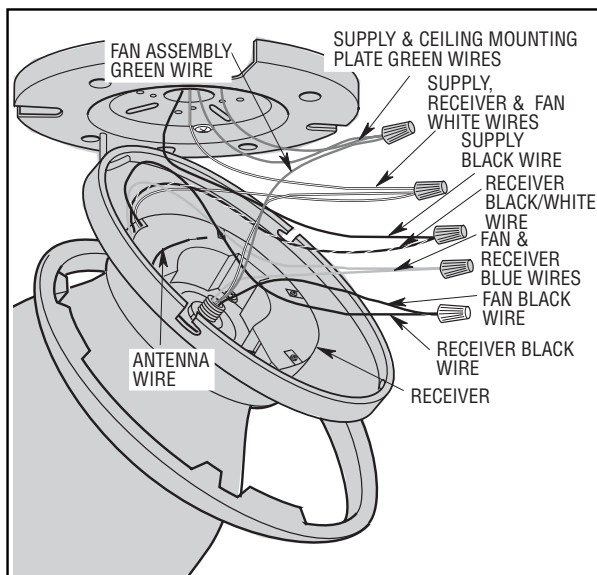

Figure 9
1. Position the receiver into the fan motor housing as shown in Figure 9.
2. Refer to Figures 9 and 10 to connect the receiver wires to the supply wires and the fan motor wires using the wire connectors supplied with the fan as follows: